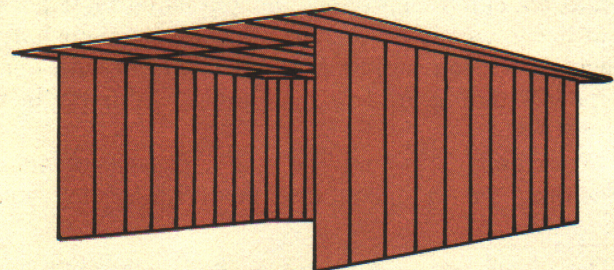

Fig. 1. Typical open housing.
**OPEN HOUSING**—one or more sides of the building are left open (Fig. 1). Horses are not confined, but are free to move in and out of the building at all times. The inside temperature is about the same as